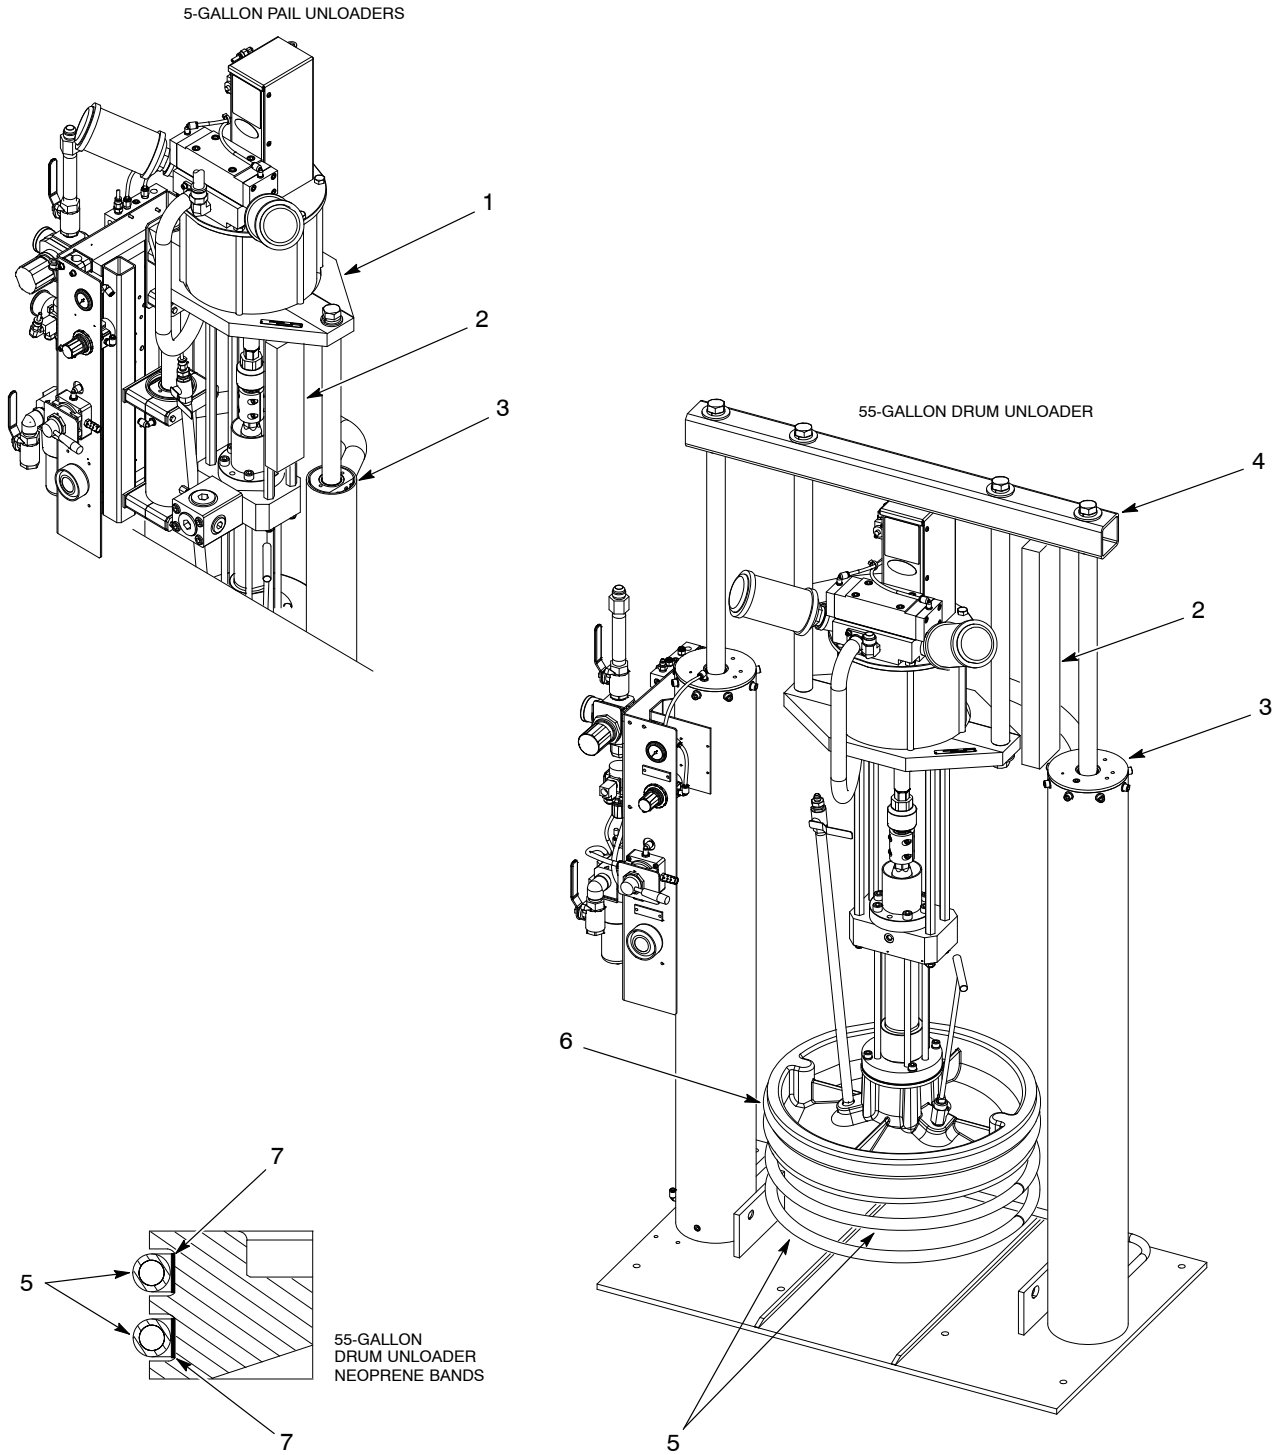

Figure 2 Replacing the Seals
2. See Figure 2. Insert the support blocks (2):